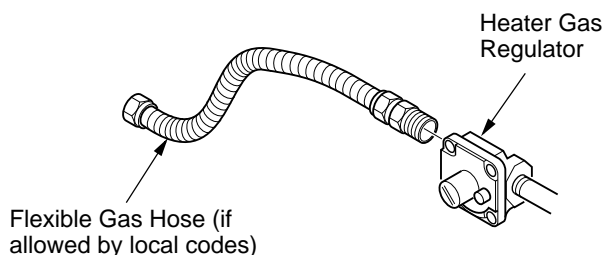
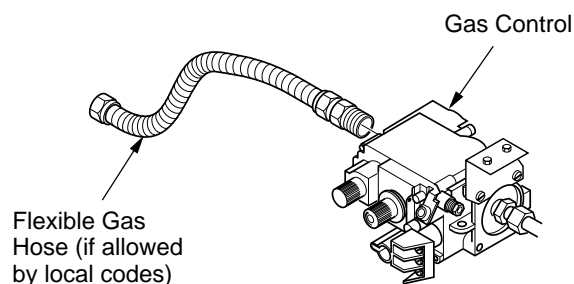

Figure 11 - Attaching Flexible Gas Hose to Heater Gas Regulator (Variable Manually-Controlled and Thermostatically-Controlled Models Only)
Figure 12- Attaching Flexible Gas Hose to Heater Gas Regulator (Remote-Ready Models Only)
1. Apply pipe joint sealant lightly to male threads of gas fitting (not provided). For Variable Manually-Controlled and Thermostatically-Controlled Models connect approved flexible gas hose to gas regulator of heater (see Figure 11, page 11). For Remote-Ready models connect approved flexible gas hose to inlet side of gas control (see Figure 12, page 11).